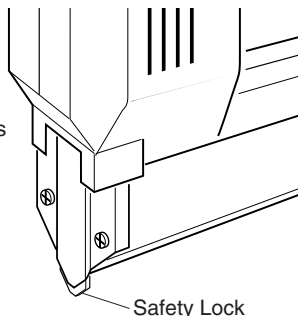

Figure 6
3. Grip tool firmly and hold against work surface. Use enough pressure to depress safety lock. The safety lock is located on nail exit of tool (see Figure 6).